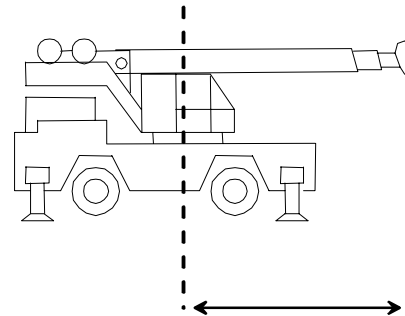

Figure 7
3. Retract the boom fully and boom down to **ZERO** degrees (Fig. 7).